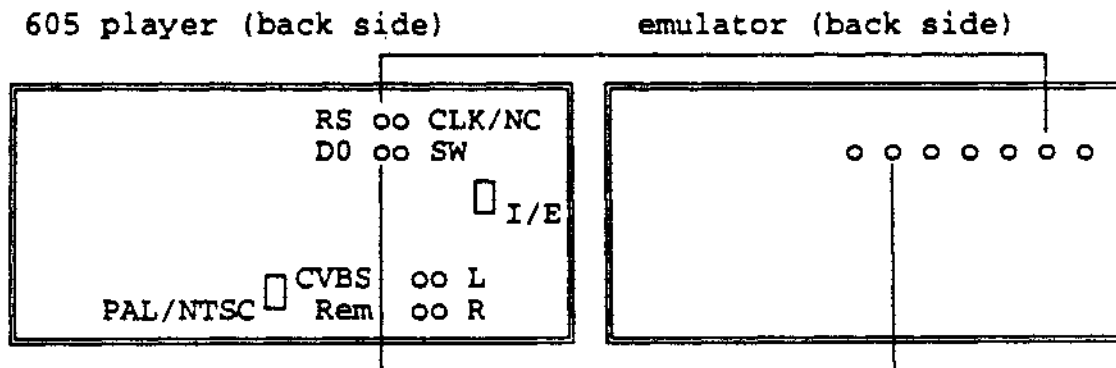

figure 3 : emulator and 605 player
Only two cables are needed, the D0 (the data out line) and the RS (the serial control connection named after the serial RS232C standard), it is NOT necessary to connect the CLOCK (the clock pulse line), since the CLOCK signal is not connected inside the 605 player. Production 605 players have this connector relabelled to N.C. for Not Connected. Since the D0 connection will transfer all data it is recommended to use the thicker, shielded cable with the white connectors for D0 and the thinner unshielded cable with the yellow connectors for RS. The cable with the red connectors is unused, as mentioned before. See figure 3.
- the red SWITCH input jack next to the D0 and RS connectors on the back of the CDI 605 (marked SW in fig.3).
- the hardware internal/external switch next to the connectors D0, RS, CLOCK and SWITCH (marked I/E in fig.3).